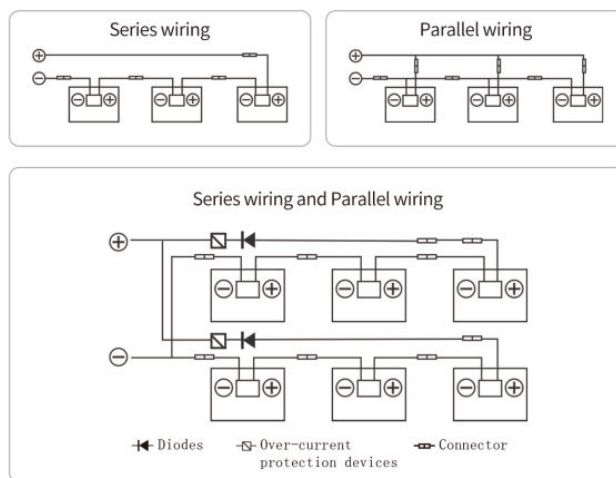

Figure 4 Electrical diagrams of series and parallel wiring
- When modules are connected in series, the final voltage is sum of the single module. When modules are connected in parallel, the final current is sum of the single module, as shown in Figure 4. Modules with different electric performance models cannot be connected in series.